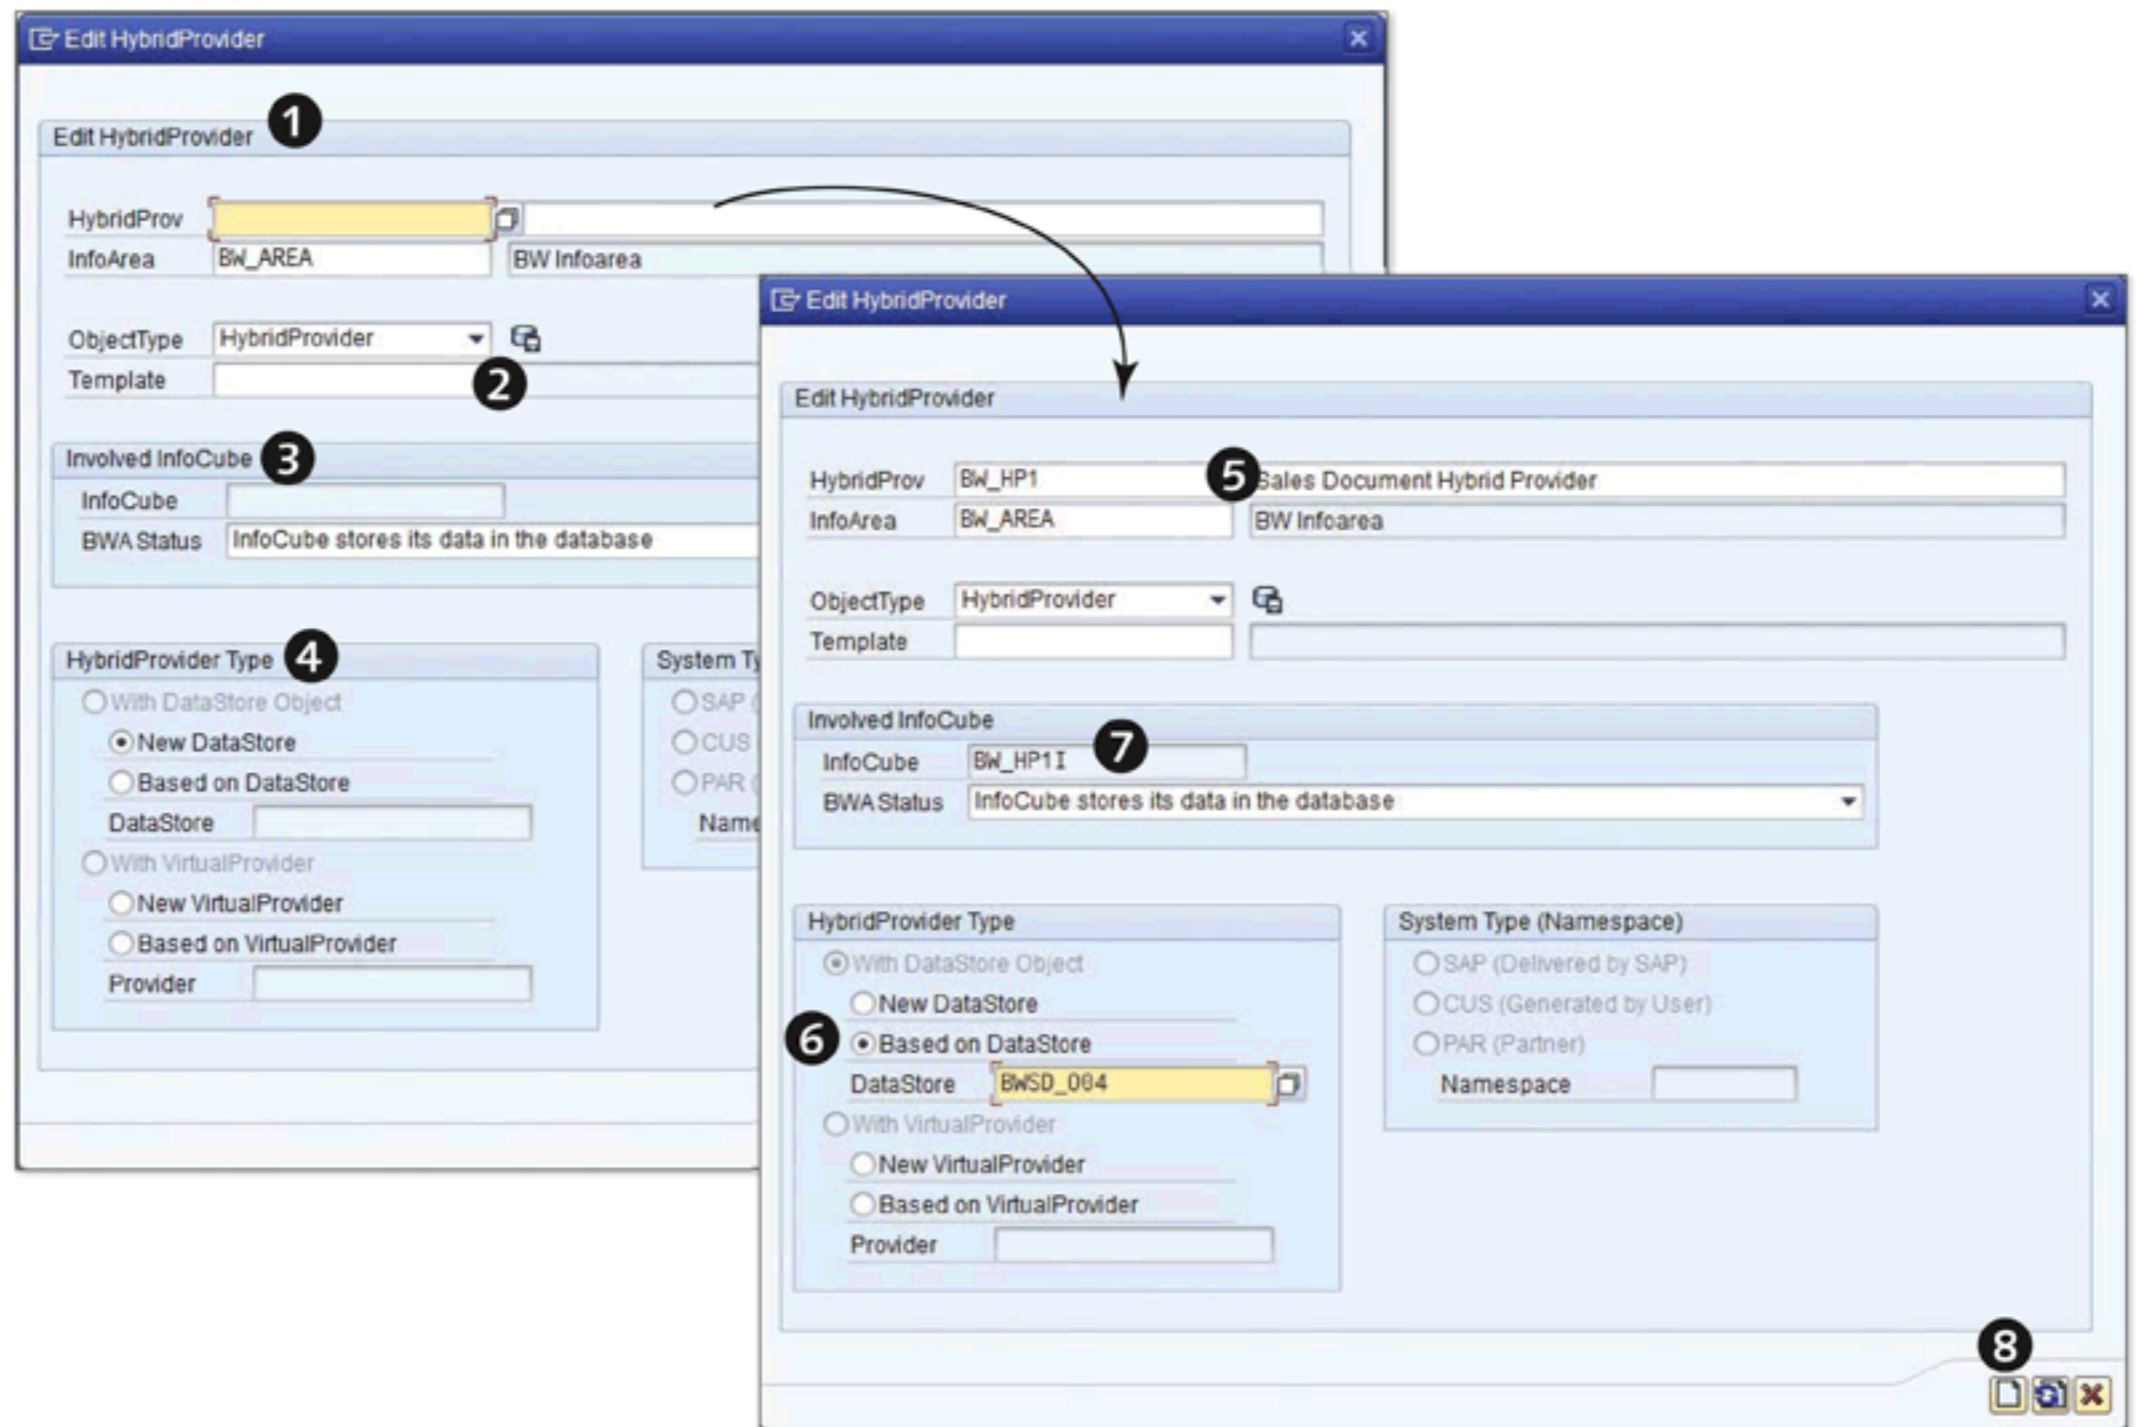
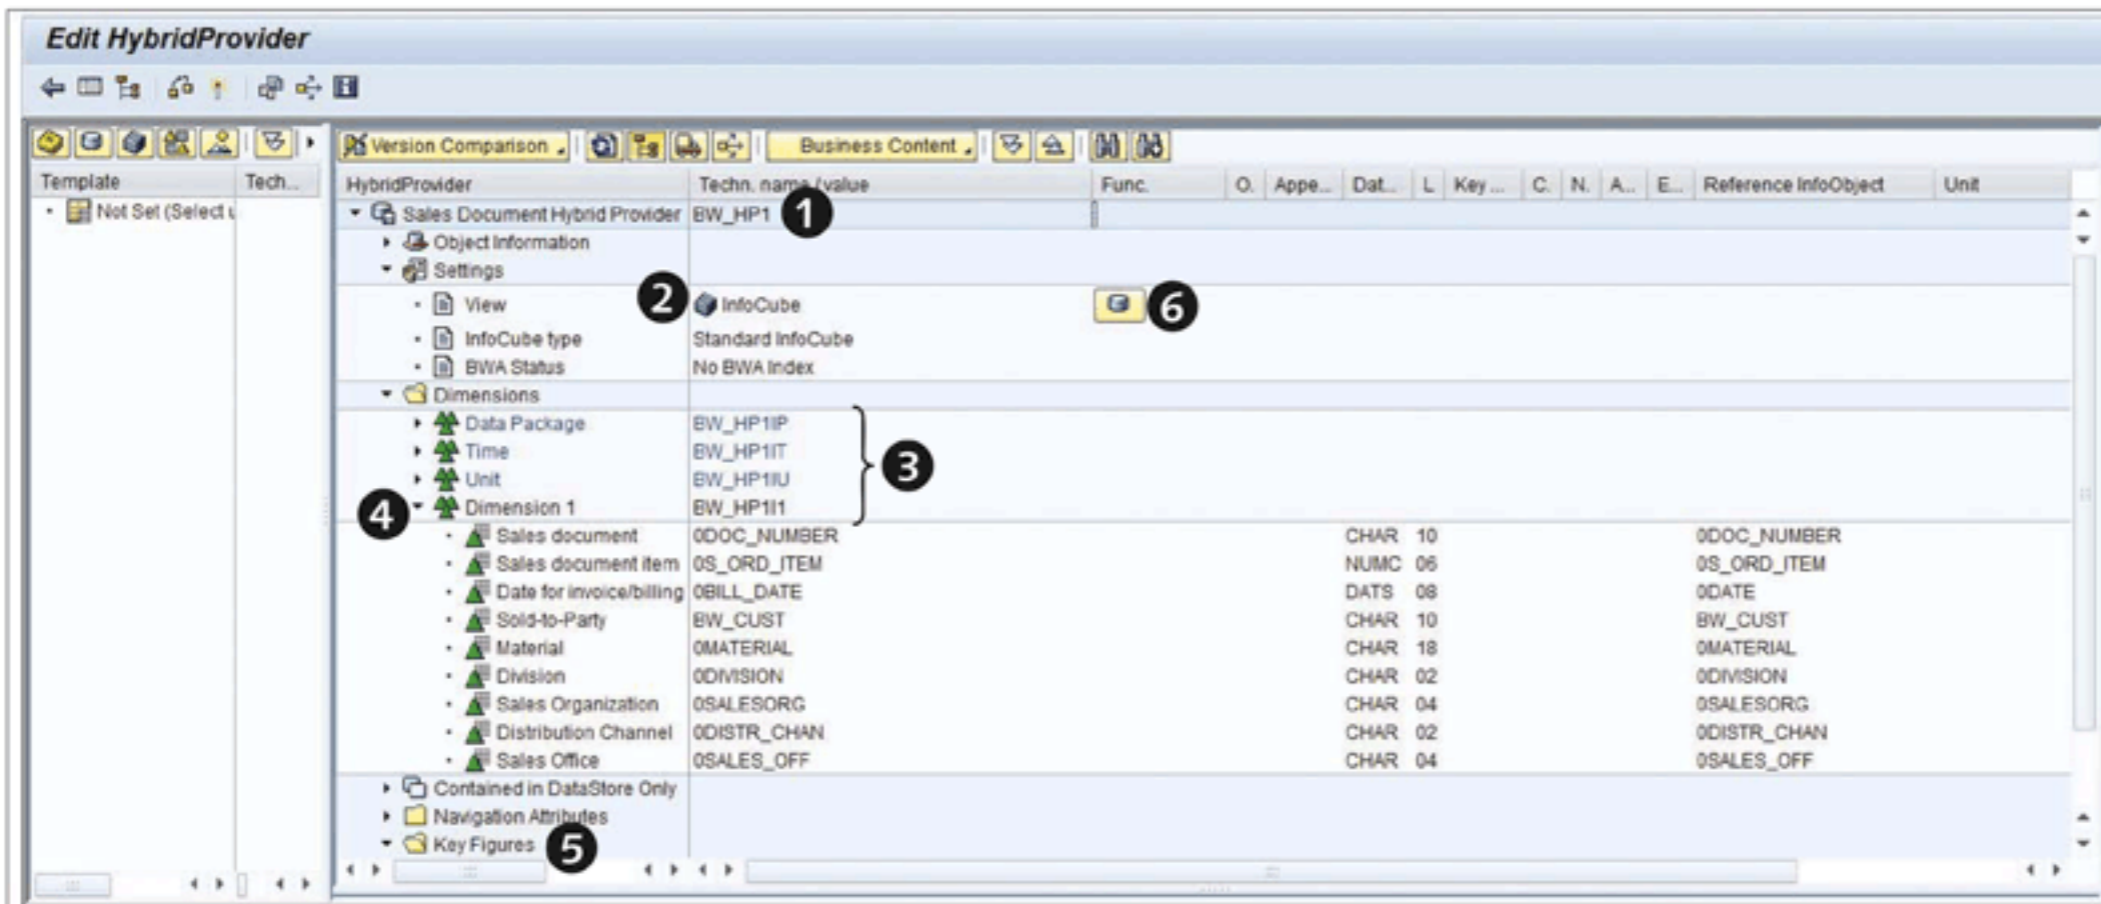
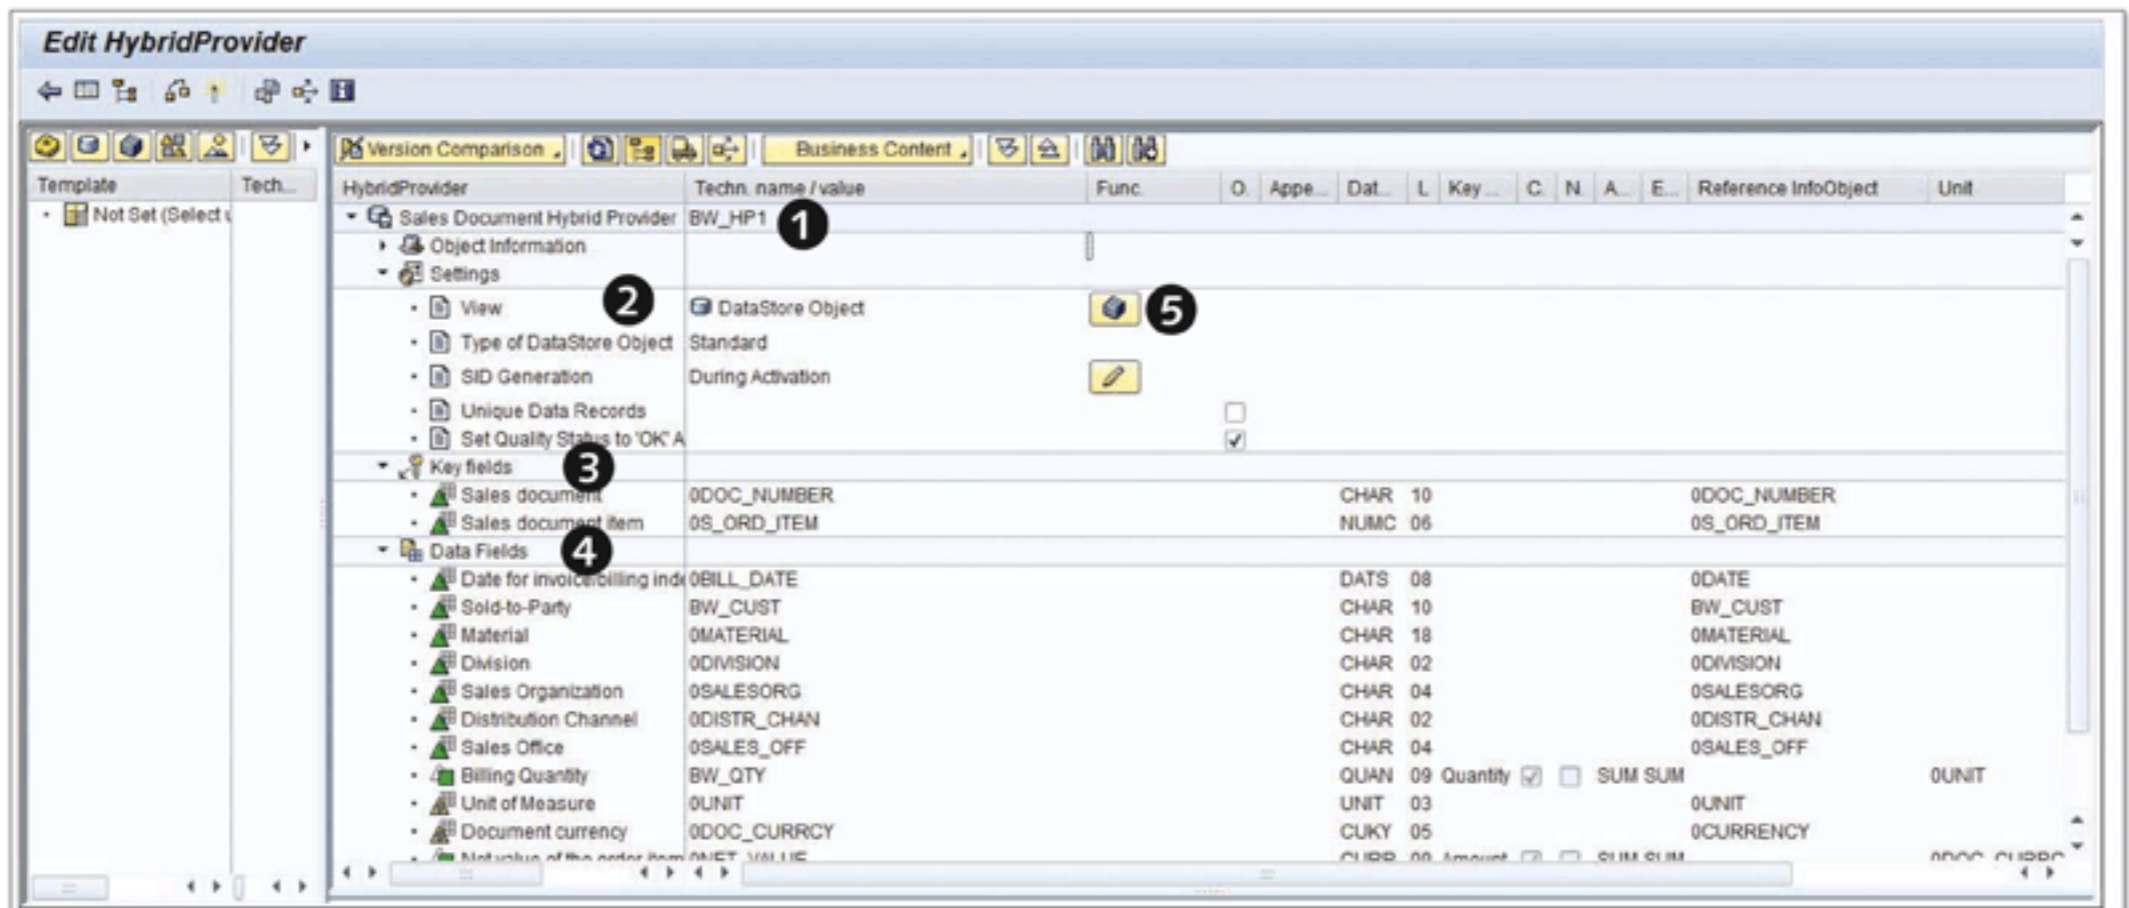

Figure 6.62 Edit Hybrid Provider: Part 1
Figure 6.63 Edit Hybrid Provider: Part 2
Figure 6.64 DSO View of Edit Hybrid Provider
Select the InfoArea BW_AREA under which you want to create your hybrid provider (3). From the context menu, select CREATE HYBRIDPROVIDER (4). The EDIT HYBRIDPROVIDER screen appears, as shown in 1 of Figure 6.62.
Using a template (2 of Figure 6.62) allows you to create a new hybrid provider based on an existing hybrid provider. The InfoCube is part of the definition of the hybrid provider, and the name of the InfoCube involved in the hybrid provider is shown under INVOLVED INFOCUBE (3). The type of the hybrid provider is selected from HYBRIDPROVIDER TYPE, as shown in (4) of Figure 6.62.
Enter the name of the hybrid provider as “BW_HP1” with the description “Sales Document Hybrid Provider,” as shown in 5 of Figure 6.62. We are creating our hybrid provider based on an existing DSO BWSO_004. You need to have created BWSO_004 based on the definition as per Table 6.18; the fields included in DSO BWSO_004 are also shown in this table. Select the setting BASED ON DATASTORE, as shown in 6.
As soon as you select this, the system selects the name of the involved InfoCube (BW_HP1), as shown in 7 of Figure 6.62. To continue with the definition, click on the CREATE icon, as shown in 8. This brings you to the screen shown in Figure 6.63.
As shown in ❶ of Figure 6.63, the name of the hybrid provider is displayed. The system shows the INFOCUBE view, as shown in ❷, which means that the system displays dimensions and key figures, as shown in ❸, ❹, and ❺. The system automatically creates the dimensions DATA PACKAGE, TIME, UNIT, and DIMENSION 1, and all of the involved key figures are shown under the KEY FIGURE heading. You can jump to the DATASTORE OBJECT view by clicking on the DSO icon, as shown in ❻. This switches the display to the DSO view of the hybrid provider, as shown in Figure 6.64.
As shown in Figure 6.64, the definition of the DSO included in the hybrid provider is shown with KEY FIELDS (❸) and DATA FIELDS (❹). By clicking on the INFOCUBE icon, as shown in ❺, you can switch back to the InfoCube view.